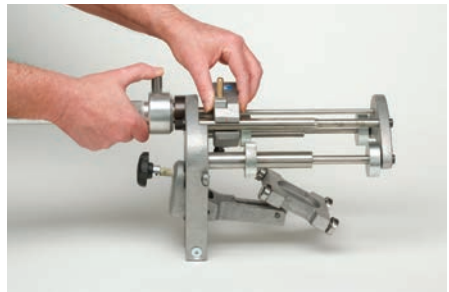

fig. 2
- Press release button **(9)** and bring blade casing **(7)** close to the front plate (box) (fig. 2).